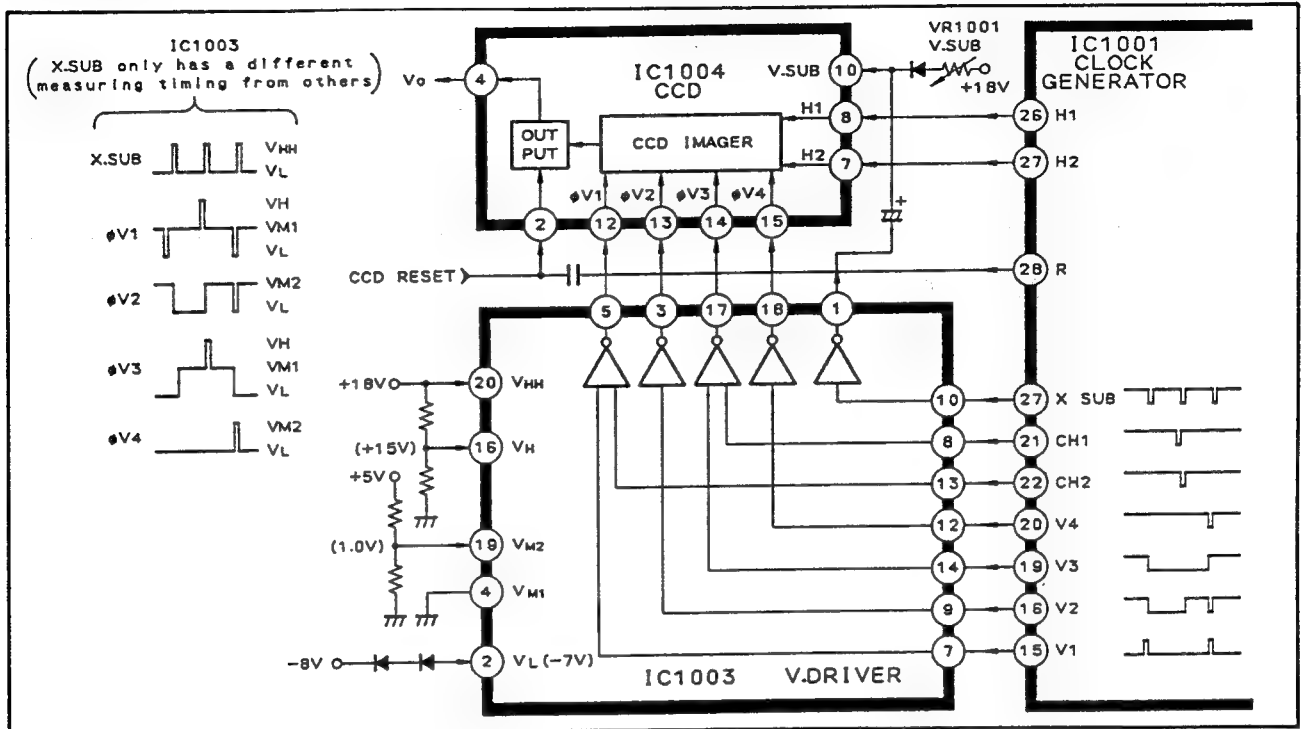

Fig. I-10
Mix CH1 (3) and V1 (3) and, as shown on the right of Fig. I-10, invert them and convert them into voltages.